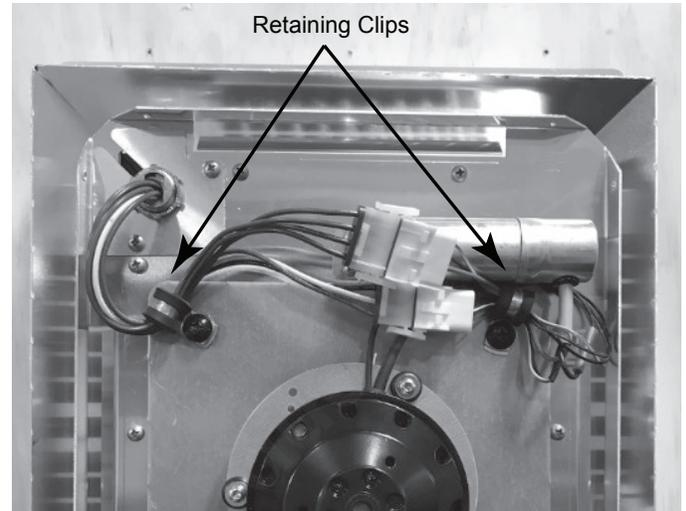

Figure 7.20
- Plug wire harness connectors into motor assembly connectors and secure wire harness and motor wires with retaining clips (2) as shown. See Figure 7.20.